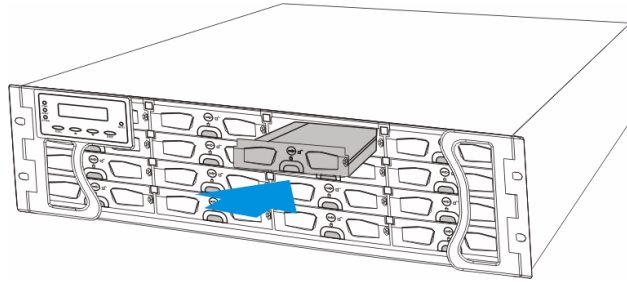

Fig. 3.3 Installing a Drive Tray
3. Align the drive tray with the slot in which you wish to insert it. Make sure that it is resting on the rails inside the enclosure. Once the drive tray is lined up with the slot, gently slide it in. This should be done smoothly and gently. (See *Figure 3.3*)